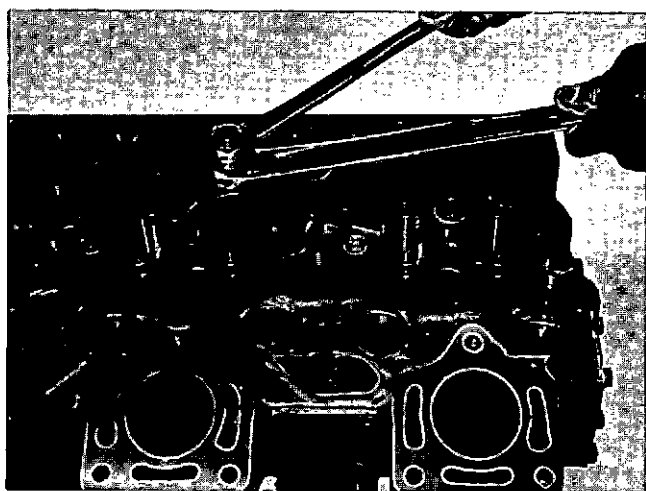

Fig. 2-4-1, V40234. Pull crosshead guide
1. Remove crosshead guides to be replaced, using ST-667 Puller which contains different-size collets for the various engine guides or dowels, Fig. 2-4-1. Clean holes thoroughly.